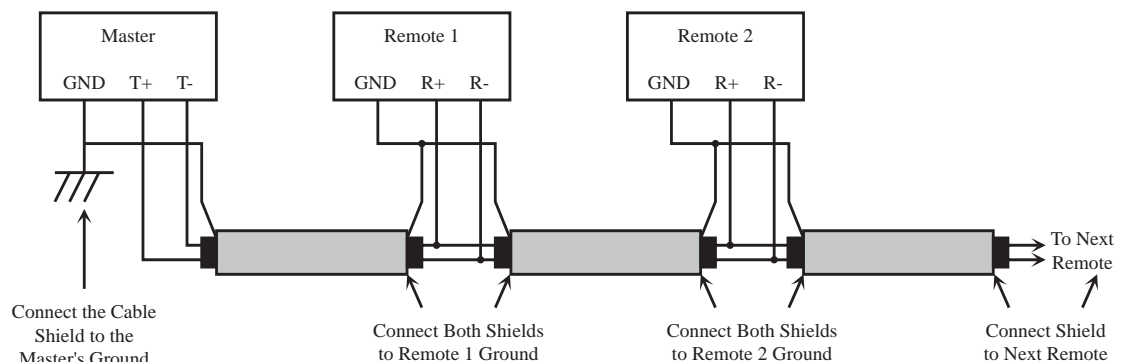

Figure 2-4: Communication Shielding Carrying a Single Ground to Each Unit
- carrying an earth ground to each unit (see Figure 2-4)
The second method of establishing a ground reference in a system with floating power supplies is to use the ground line in the RS-422 cable to establish a common reference voltage for the communication signals. This line should be connected to the negative power terminal on the data converter or the ground line in the RS-232 port from the host PC system. It should then be carried to one of the ground terminals on the back of each unit in the network. An example of this method of grounding is shown in Figure 2-4.